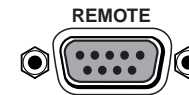

Figure 2-7 — Remote connector pinout
- 6 **Remote RS-232/contact closure connector** — Connect a computer or RS-232 control module to this 9-pin D connector to allow remote control using the Simple Instruction Set (SIS™) or the Extron graphical control program for Windows (see chapter 4, "Remote Control", for details). You may also connect a KP 6 remote control keypad (part #60-111-20) or an IR 102 Kit infrared remote control (part #70-224-01) system to this connector (see figure 2-7).